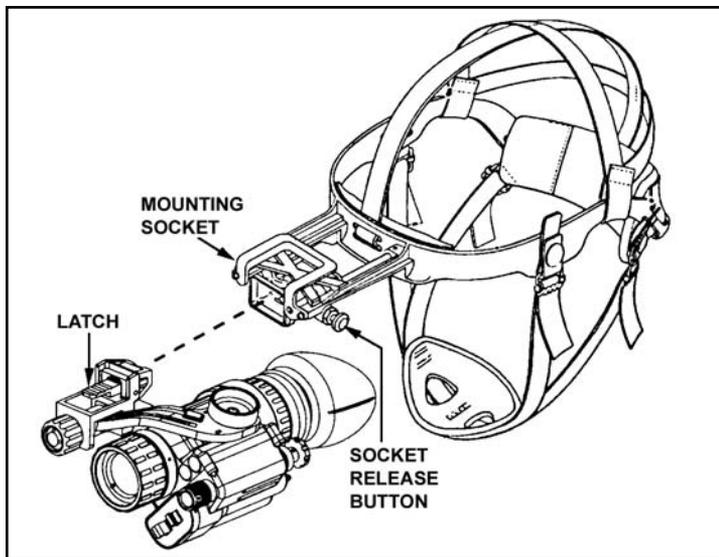

Figure 071-706-0001-5. Head/helmet mount adapter operation
3. Perform operational procedures for head mounted operation (figure 071-706-0001-5).